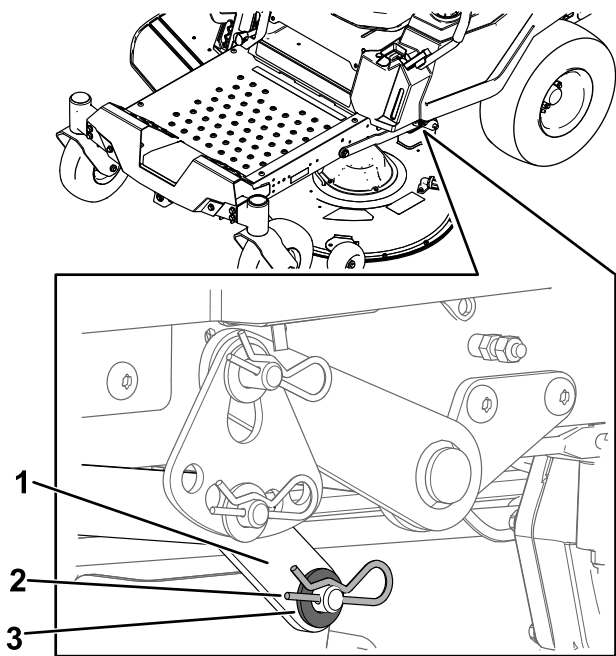

Figure 70
7. On 1 side of the machine, remove the washer and hairpin cotter from the deck pin (Figure 70).
8. Remove the lift arm from the deck pin (Figure 70).
5. On 1 side of the machine, lift the rear of the mower deck and install the lift arm to the deck pin (Figure 70).
6. Install the lift arm using the washer and hairpin cotter (Figure 70).